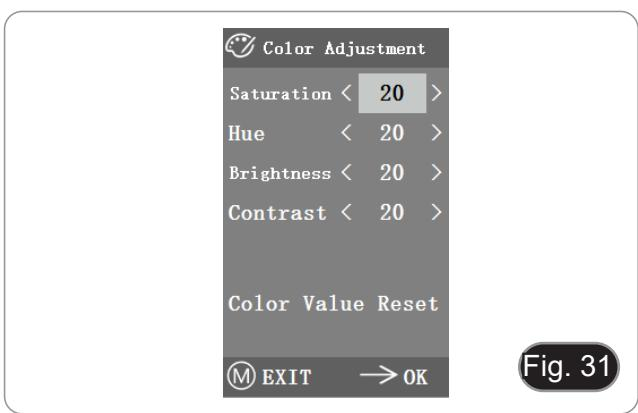

Fig. 31
- After entering the color adjustment menu (Fig. 31), Saturation, Hue, Brightness and Contrast can be adjusted to make the picture reach the required level.